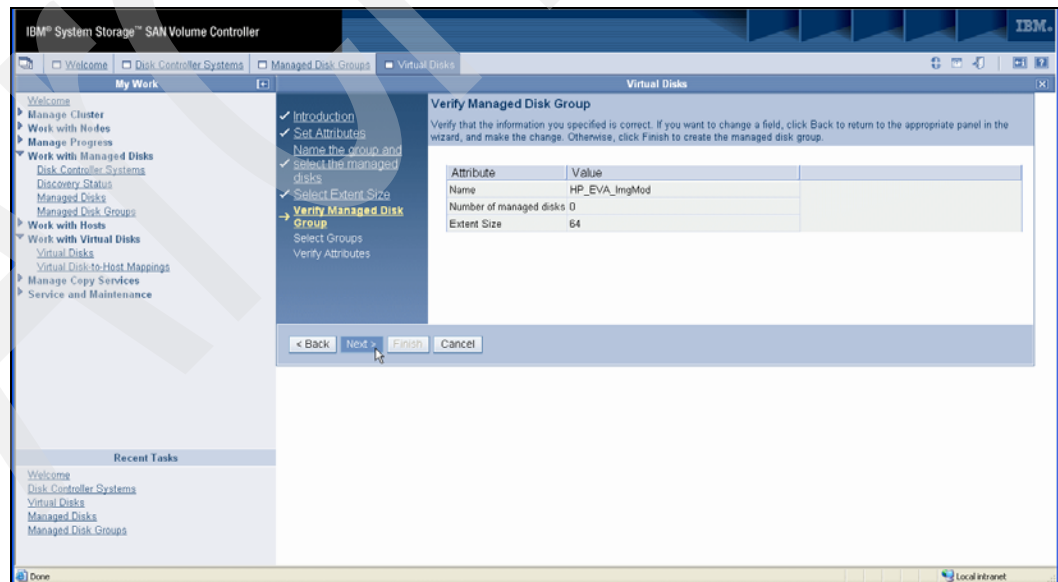

Figure 7-16 Create Image Mode VDisk verify managed disk group attributes
8. On the next panel (Figure 7-16) verify the MDisk group attributes before it is created. If everything is correct, click **Next**.